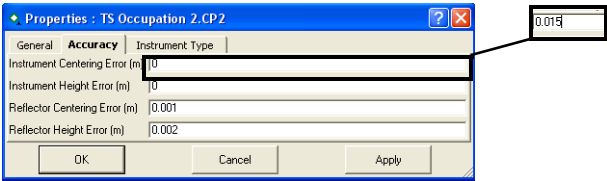

Figure 5-88. Accuracy Properties for TS Occupation
5. On the *Accuracy* tab, type in the corresponding values for the error of centering instrument/reflector and for the error of the instrument's/reflector's height measurement(Figure 5-88).